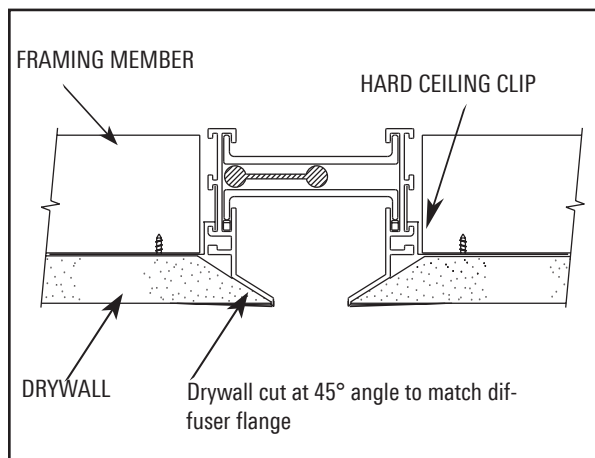

Figure 9. Drywall Preparation - Margin N Only)
- For Margin N only, before installing the sheetrock or wood ceiling, the leading edge must be trimmed at a 45° angle to match the Diffuser as shown in Figure 9.